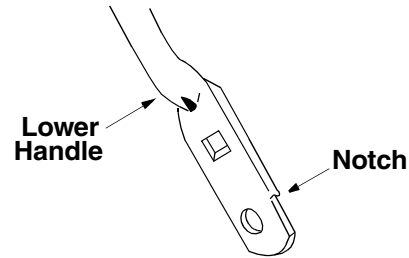

Figure 12
- Turn the lower handle around so the notches on the bottom of the lower handle are facing forward as shown in Figure 12. Reassemble, placing the bottom holes in the handle over the weld pins in the handle mounting bracket.